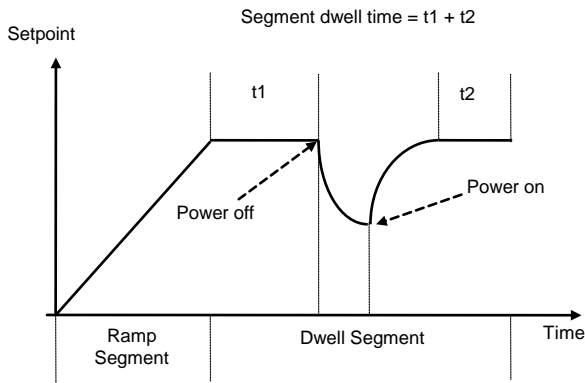
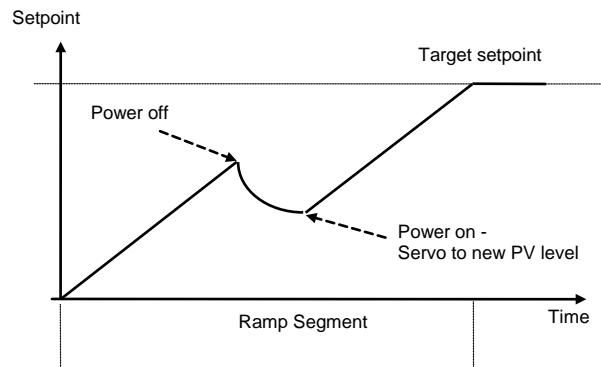

Figure 5-2: Continue after a power fail
Figure 5-3: Ramp back after a power fail
**If '*rmb*' is selected,** then when power is restored the setpoint starts at ('servos to') the current measured value, and then ramps to the target setpoint of the active segment at the last ramp rate used by the program. This strategy provides a smoother recovery. The two diagrams below illustrate the respective responses, Figure 5-2 if power fails during a dwell segment and Figure 5-3 if it fails during a ramp segment.